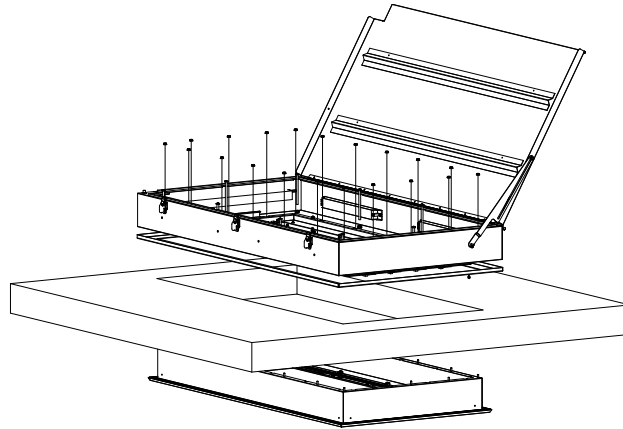

Figure 2
7. Place the clamping plate and upper housing over the lower housing and secure using the (4) nuts removed in step 3 and the additional ones provided. See Figure 2. IT MAY BE NECESSARY TO FIRST BACK OUT THE LONG CLAMPING SCREWS TO SECURE THE HOUSINGS.